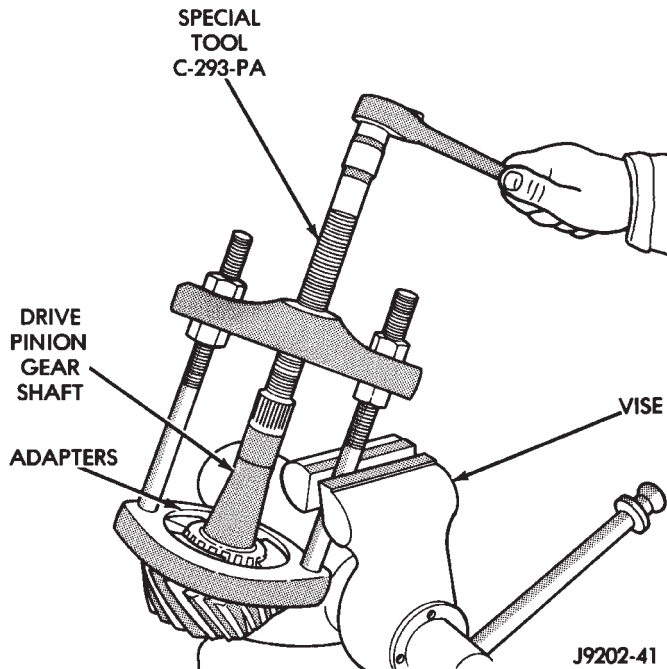

Fig. 39 Rear Bearing Removal
(12) Remove the rear bearing from the pinion with Puller/Press C-293-PA and Adapters C-293-40 (Fig. 39).